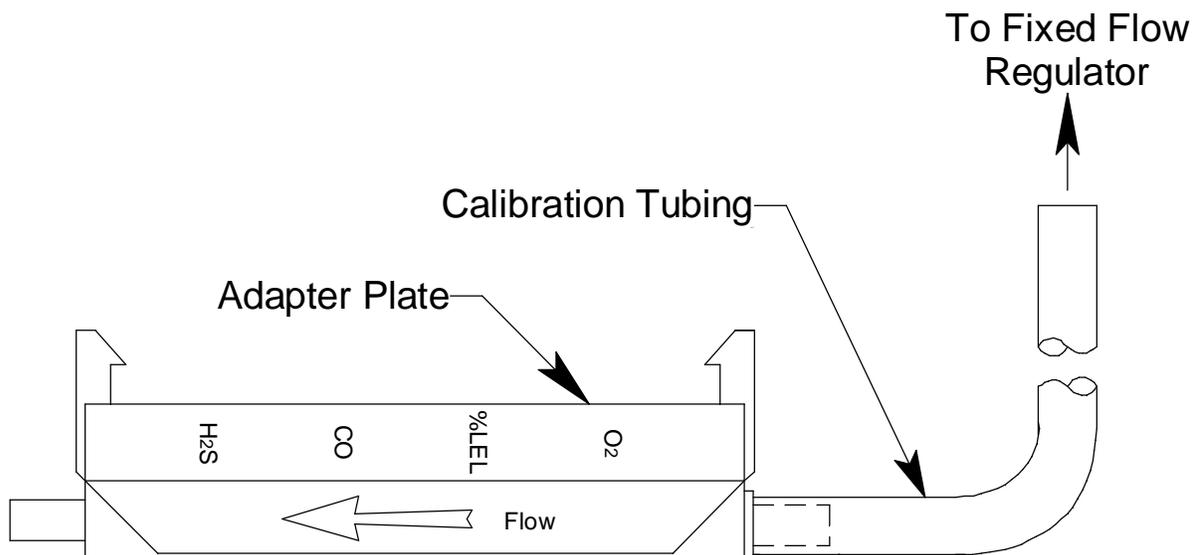

Figure 26: Calibration Kit Assembly
7. Use the calibration kit sample tubing to connect the calibration adapter plate to the regulator. Attach the tubing to the adapter plate on the inlet side as shown below in Figure 26.